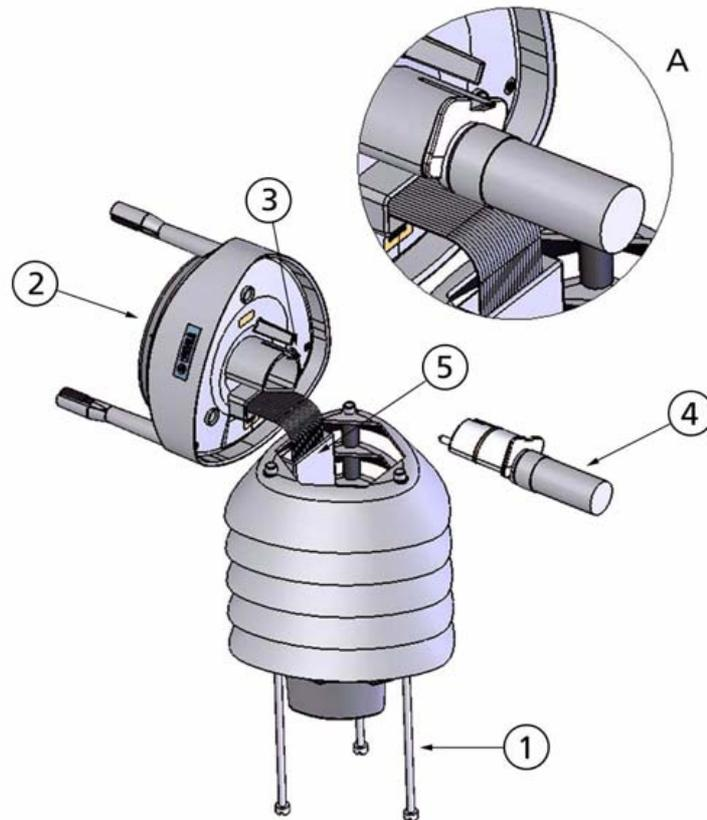

Figure 20 Replacing the PTU Module
3. Release the small white latch (see section A in Figure 20 on page 114) and remove the PTU module. Remove the vacuum bag protecting the PTU module. Connect the new PTU module.